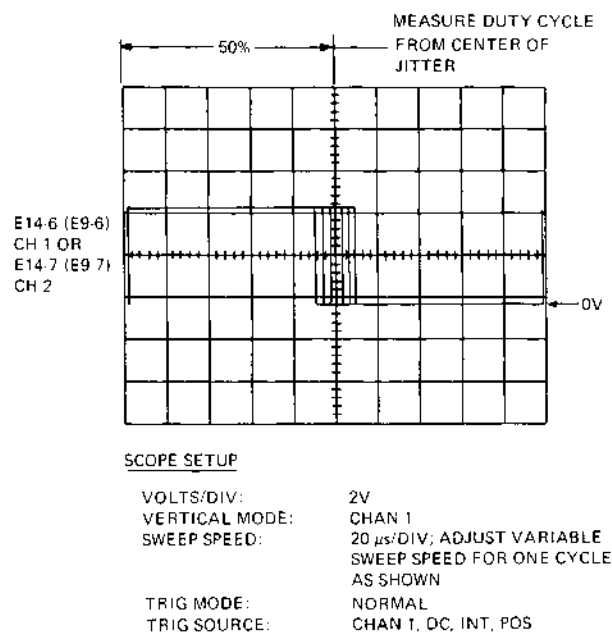

Figure 6-4 Encoder Output Waveform
7. Connect the scope to E14-6/E9-6 (encoder CH1). Set the scope as shown in Figure 6-4. Turn power on. The servo motor should be turning counterclockwise. The waveform on the scope should be a square wave similar to Figure 6-4 with a duty cycle of 50 percent.